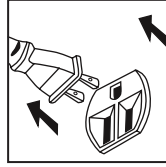

Fig. 1
1. Verify the power plug is not connected to the power supply (Fig. 1)